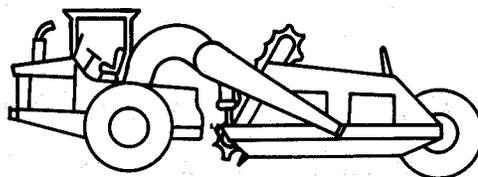

Figure 2 – Elevated loading
5.1.1.2 Elevated loading (figure 2)